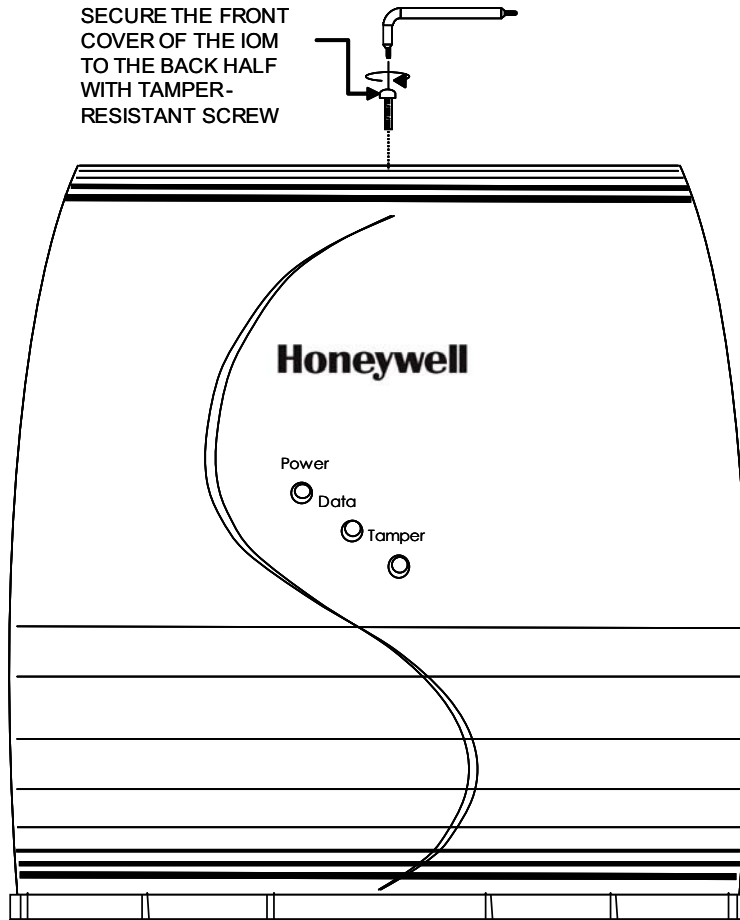

Fig. 17. Securing the front cover onto the back half of the IOM
8. Use the Allen wrench to tighten the tamper-resistant screw at the top of the IOM enclosure. See Fig.17.
7. Use the Allen wrench to tighten the tamper-resistant screw at the top of the IOM enclosure. See Fig.17.